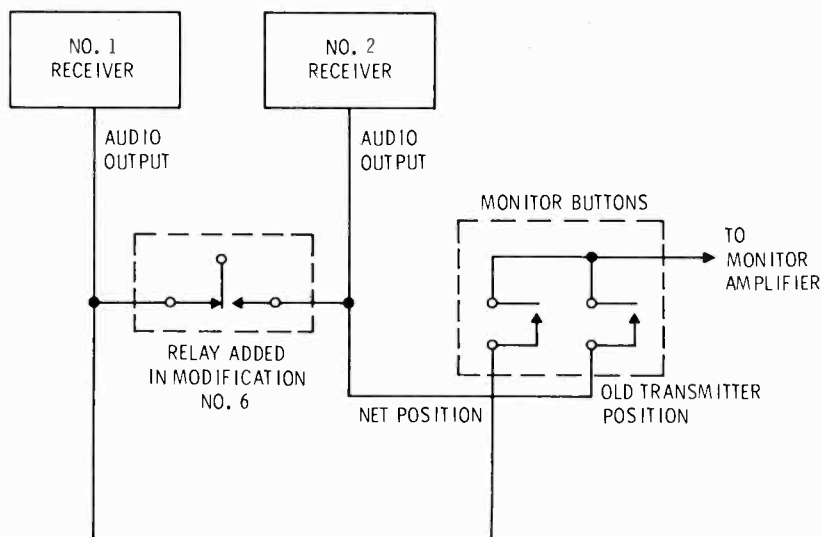

Fig. B-7. TC-4A modifications to wire monitor buttons and both receivers so that they may both be checked out if one is on the air.
9. Off-Air Receiver Audio Monitoring (Fig. B-7)